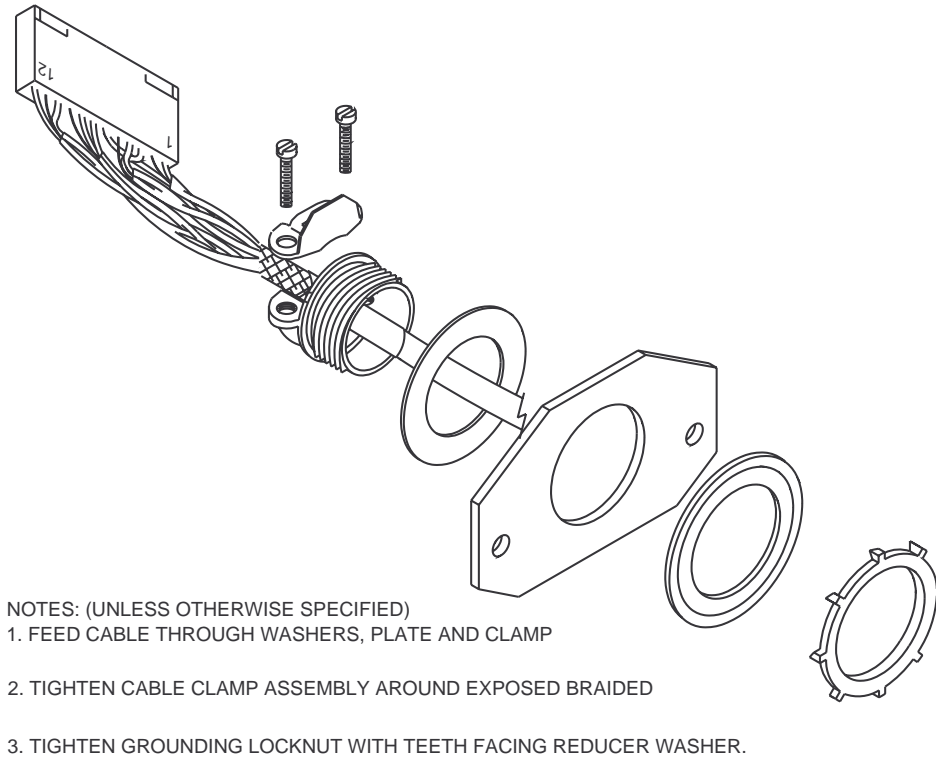

**Figure 2.2 Flywheel Mounting**
10. Remove the shipping collar using the supplied Allen wrench, and install the Digital Soundhead flywheel, which is packed separately for shipping (see **Figure 2.2**).